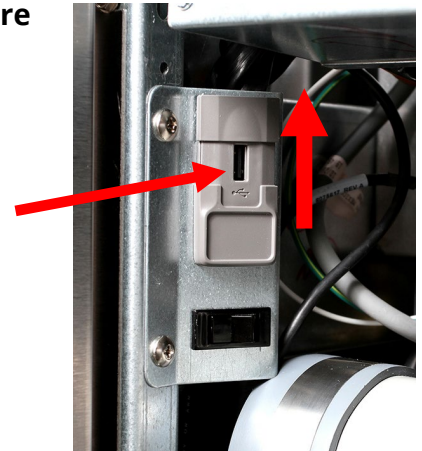

Figure 1
10. Open the far-left cabinet door and slide the USB cover up (see Figure 1).